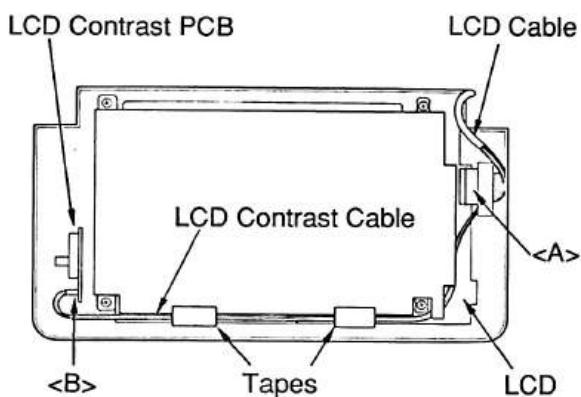

Figure 22
- (9) Place the LCD panel as shown in Figure 22 and remove the two connectors <A> and .
- (10) After peeling off the two pieces of tape fixing the LCD contrast cable, remove the LCD cable from the display panel as shown in Figure 22.